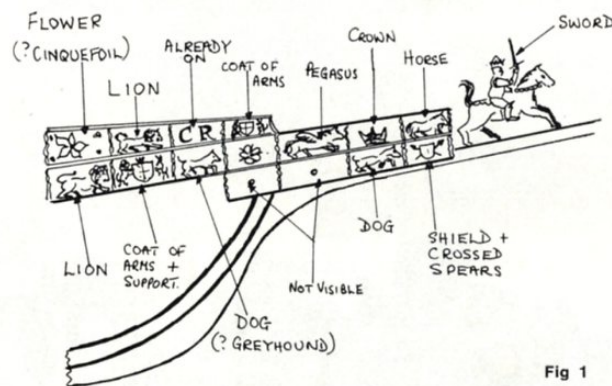

Fig 1
- (1) There are three (not two as per model) crows-nests or fighting tops on both the foremast and main mast. The third is placed immediately below the topmost stepped mast.
- (2) The panels on the 'beak' are ALL decorated, unlike the model, which only carries a 'CR' in one panel—see Fig 1.
- (12) Finally, the figurehead of a king on horseback should have a sword upraised in his right hand—see Fig 1.